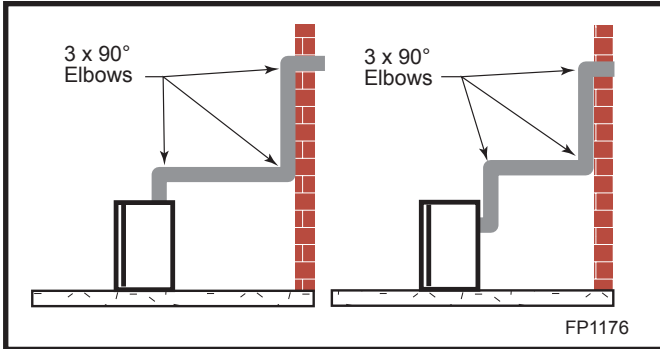
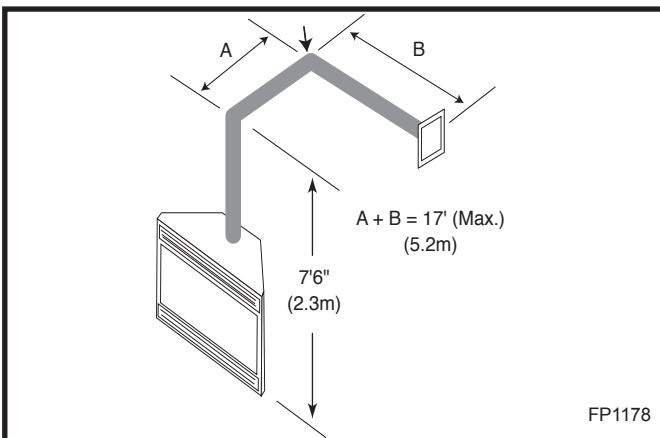

Fig. 26 Maximum three (3) 90° elbows per installation.
Fig. 28 Horizontal run reduction.
- If a 90° elbow is used in the horizontal vent run (level height maintained) the horizontal vent length is reduced by 36" (914 mm). (Fig. 28 & 29) This does not apply if the 90° elbows are used to increase or redirect a vertical rise. (Fig. 26)
In Figure 28 & 29, dimension A plus B must not be greater than 17' (5.2 m)